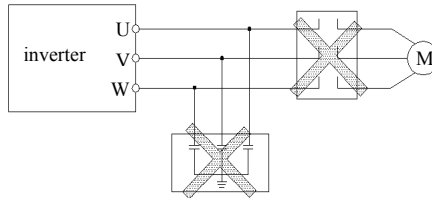

Fig.3-6 Forbid to use contactor and absorbing capacitor
- (1) Assure power be cut off completely for above 10 minutes before wiring, otherwise there is danger of getting electric shock.
- (2) Forbid connecting power wire to output U, V, W of the inverter.
- (3) If there is current leakage inside inverter, inverter and motor must be earth grounding for safety assurance, please refer to clause 8 in Chapter 3.4.1 for grounding wiring.
- (4) Before shipment compression resistance test of the inverter is Passed, so users should not conduct compression resistance test again.
- (5) Do not add absorbing capacitor or other resistance-capacitor absorbing device between inverter and motor; also do not add electromagnetic contact. If contactor and other switch component needed to add, please make sure inverter suspended without output, show as Fig.3-6
- (6) To provide inverter over-current protection in output side and convenient maintenance under power off, it should be connected to power source through air switch and contactor.
- (7) Control signal wire should select multicore stranded wire or shielding wire. One end of the shielding layer hang in the air, and the other end connect to inverter earth grounding terminal, connection wire shorter than 20m.